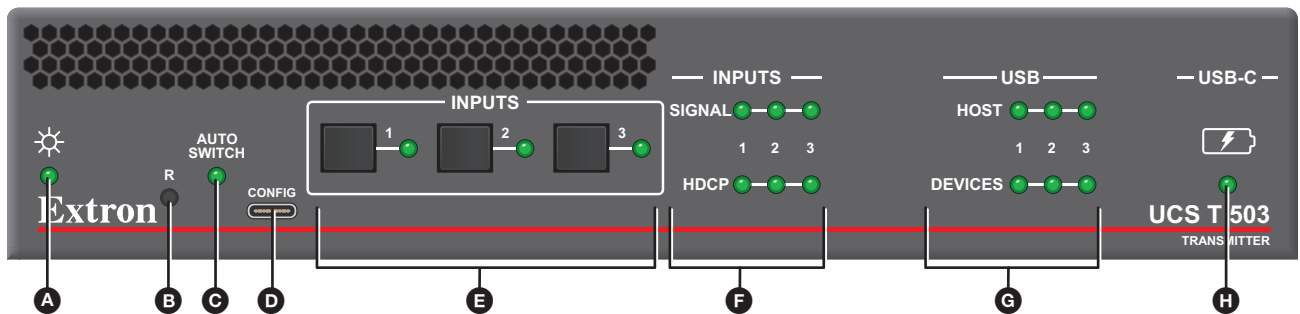
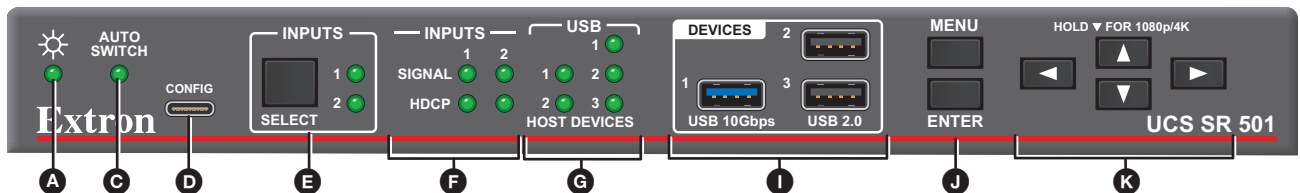

Figure 4. UCS T 503 Front Panel
Figure 5. UCS SR 501 Front Panel
- a. The power LED (see figure 4, A on page 11) lights to amber immediately when power is connected.
Figure 4 shows the UCS T 503 front panel and figure 5 shows the UCS SR 501 front panel.
- A Power LED** (see figure 4 on page 11 or figure 5 on page 11) — Indicates the power status of the device.
- UCS T 503** (see figure 4, **E**) — Three buttons for selecting input 1, 2, or 3. Three LEDs, one for each input, indicate the currently selected input.
- UCS SR 501** (see figure 5, **E**) — One button to toggle between inputs 1 and 2. Two LEDs, one for each input, indicate the currently selected input.
- UCS T 503** (see figure 4, **F**) — Three LEDs in the top row provide signal status for inputs 1, 2, and 3; three LEDs in the bottom row provide HDCP input status for inputs 1, 2, and 3.
- UCS SR 501** (see figure 5, **F**) — Two LEDs in the top row provide signal status for inputs 1 and 2. Two LEDs in the bottom row provide HDCP input status for inputs 1 and 2.
- UCS T 503** (see figure 4, **G**) — Three LEDs in the top row provide USB Host signal status for inputs 1, 2, and 3. Three LEDs in the bottom row provide USB device signal input status for USB Hub ports 1, 2, and 3.
- UCS SR 501** (see figure 5, **G**) — One double stacked column of LEDs provide the USB HOST status; one triple stacked column of LEDs provide the USB Hub device ports status.